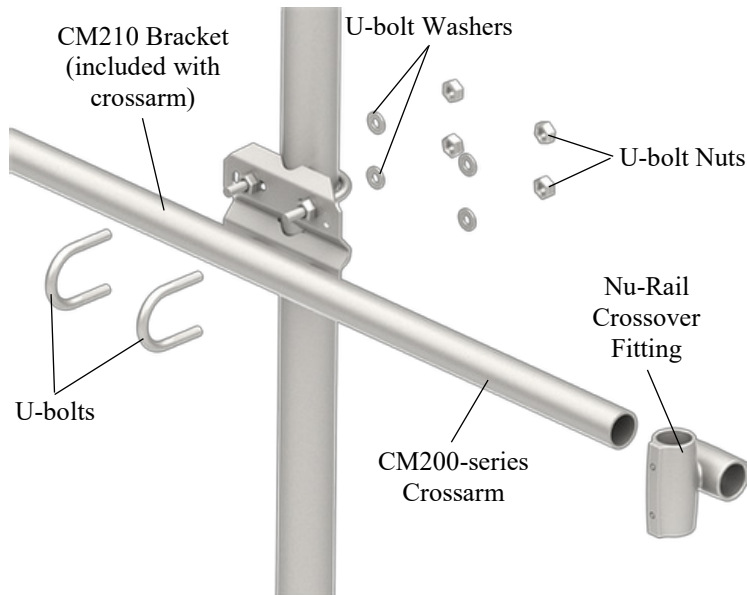
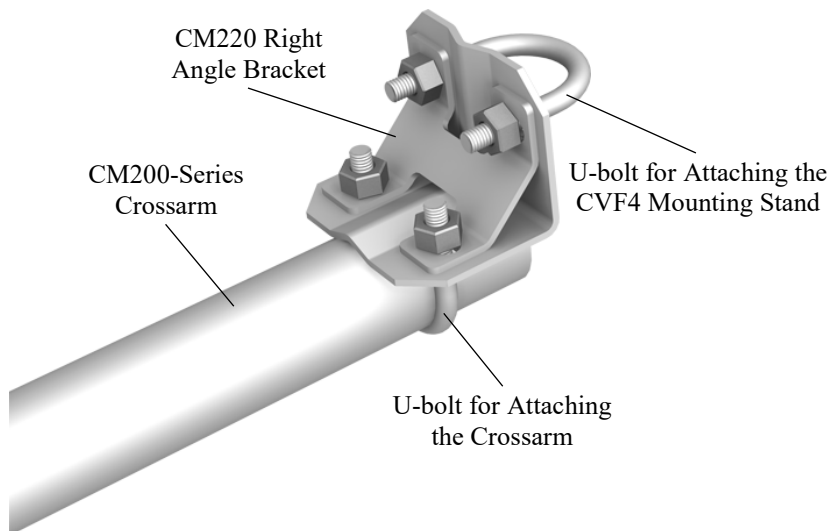

FIGURE C-4. Crossarm and Nu-Rail Crossover Fitting Mounted to Mast (exploded view)
FIGURE C-5. CM220 Right-Angle Mounting Bracket attached to CM200-series crossarm
1. Mount the crossarm to the tripod or tower (FIGURE C-4).
2. Attach the CM220 Right-Angle Mounting Bracket (FIGURE C-5) or a 1-inch-by-1-inch Nu-Rail Crossover Fitting (FIGURE C-4) to the crossarm.